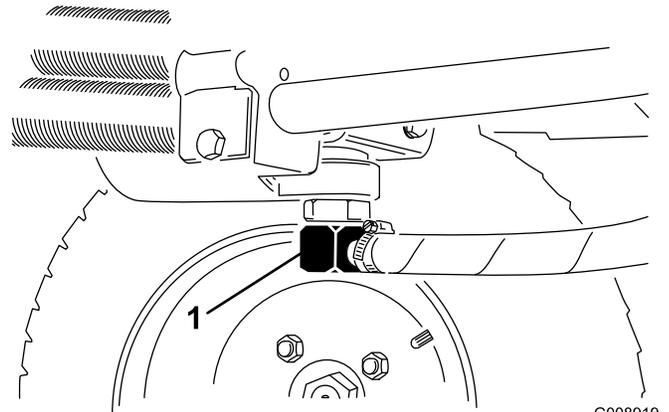

Figure 57
2. Disconnect the hydraulic line (Figure 57) or remove the hydraulic filter (Figure 56) and let the hydraulic fluid flow into a drain pan. Install the hydraulic line when hydraulic fluid stops draining.